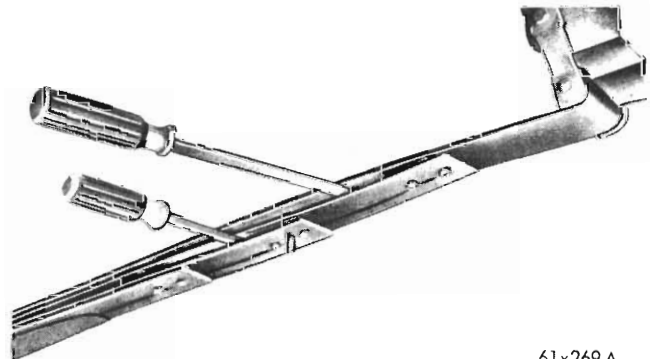

Fig. 5 - Separating spring leaves.
(3) Separate the spring leaves (*Fig. 5*) with a tapered pry bar or screwdriver, and using another screwdriver, pry out the interliner from the spring leaf.